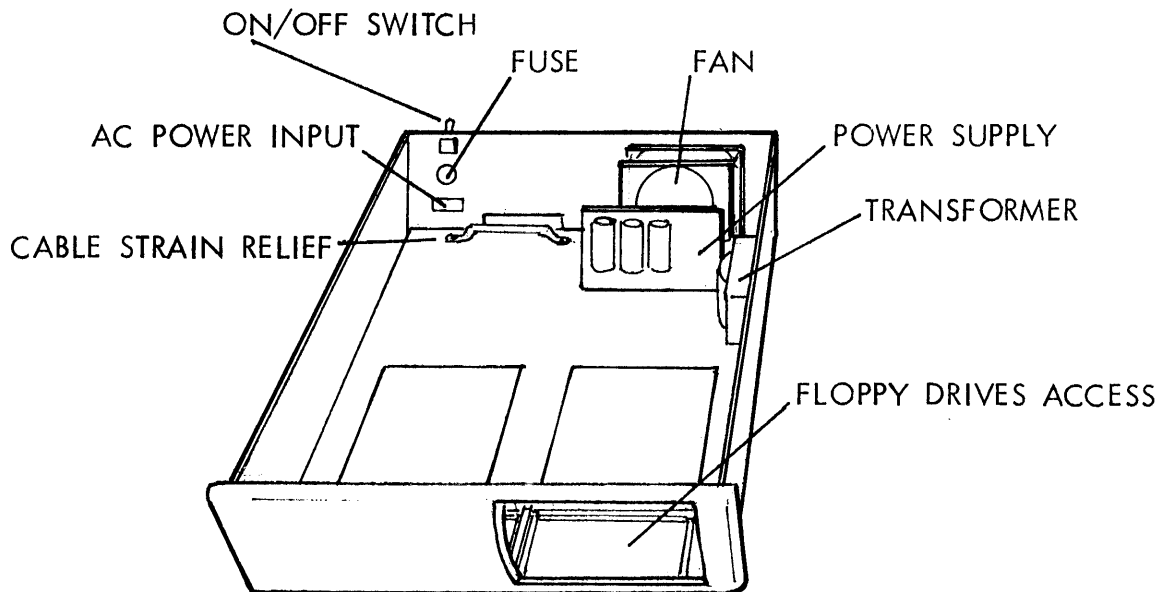

FIGURE 1: SA-H101W CHASSIS
The SA-H101W is a 5.25" chassis with mounting space and power for a 5 1/4" winchester drive and two 8" slimline floppy drives. The front panel provides floppy drive access and the power supply allows convenient conversion between 115VAC and 230VAC. A mounting sleeve provides convenient installation into a standard 19" rack. The basic SA-H101W chassis (without mounting sleeve) is shown in Figure 1.
5. Feed the controller cable through the rear egress and secure by tightening the strain relief shown in Figure 1.